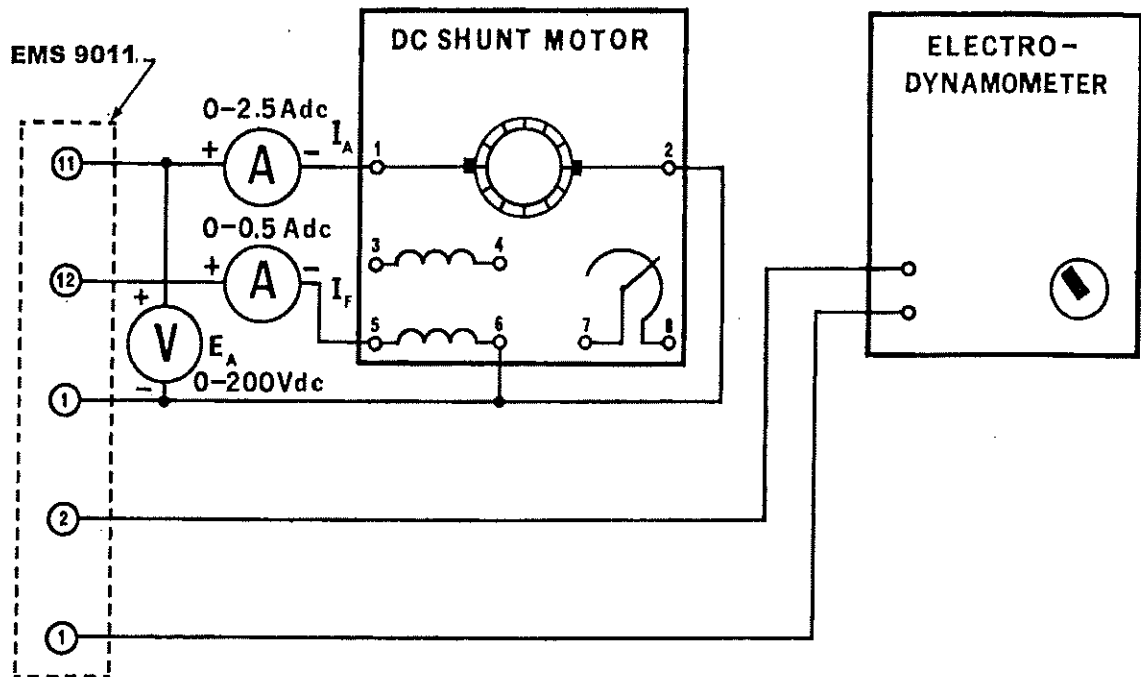

Figure E-1.
- 1. Using your Thyristor (SCR) Speed Controller, DC Motor/Generator, Electro-dynamometer, DC Voltmeter/Ammeter and Power Supply, connect the circuit shown in Figure E-1. (This is the same circuit used in the previous Experiment, where the speed control unit operated without feedback).